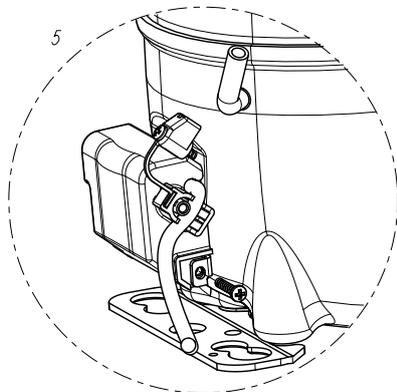
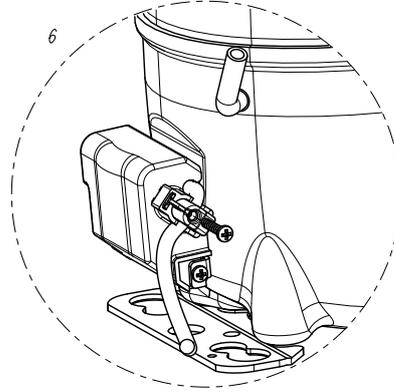

Figure 3.7: Step 5 - Screw the fence cover
Figure 3.8: Step 6 - Screw the cord anchorage
- The screws shown in Figure 3.7 and Figure 3.8 must be fixed with torque of 1.0 Nm ( $\pm 0.2$ ).